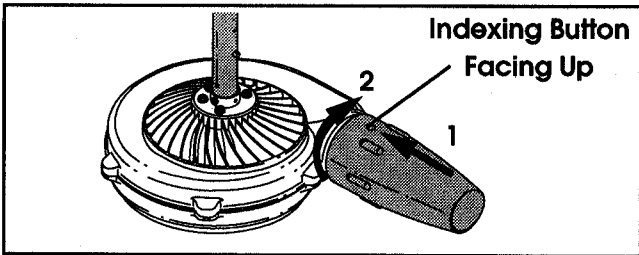
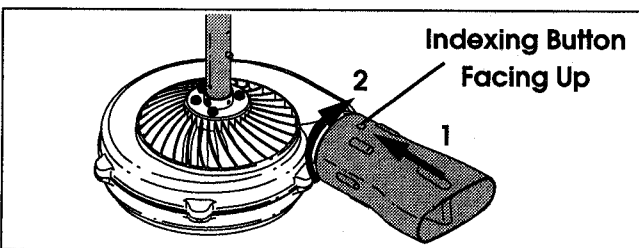

Fig. 7a
Fig. 7b
2. Push the nozzle onto the housing and turn the nozzle **clockwise** until it locks (Fig. 7a for the concentrator nozzle, and Fig. 7b for the flare nozzle).